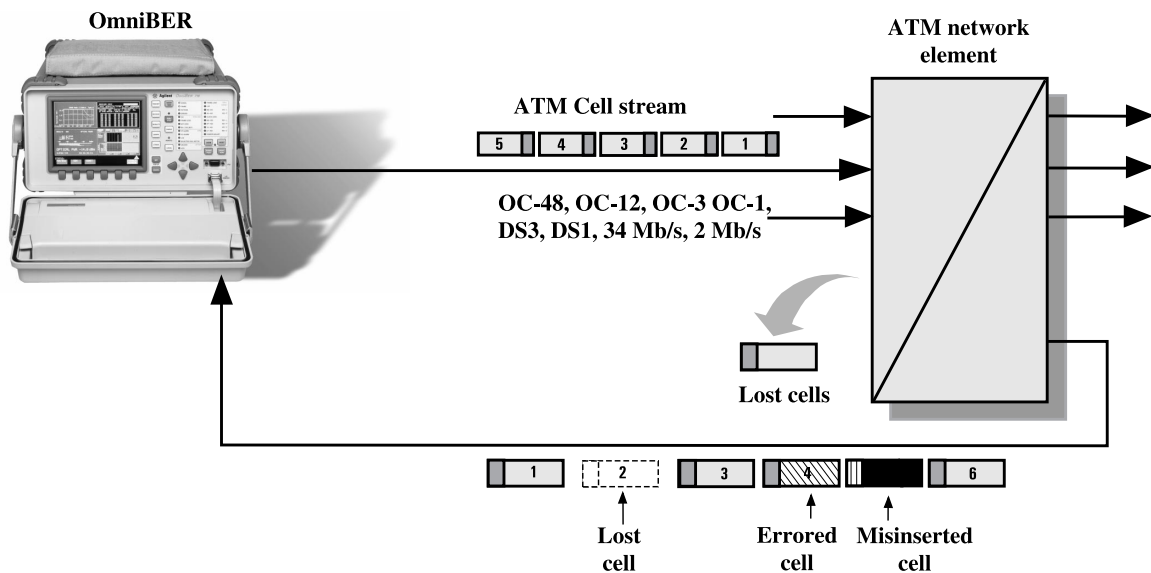

Figure 2.
1. Configure the equipment (see Figure 2).